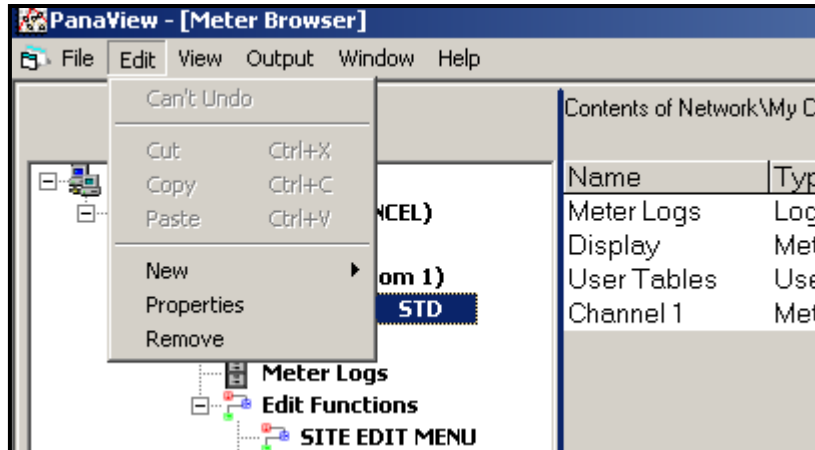

Figure 49: The *Properties* Option
2. Right-click on the highlighted XGS868i and select the *Properties* option, as shown in Figure 49.